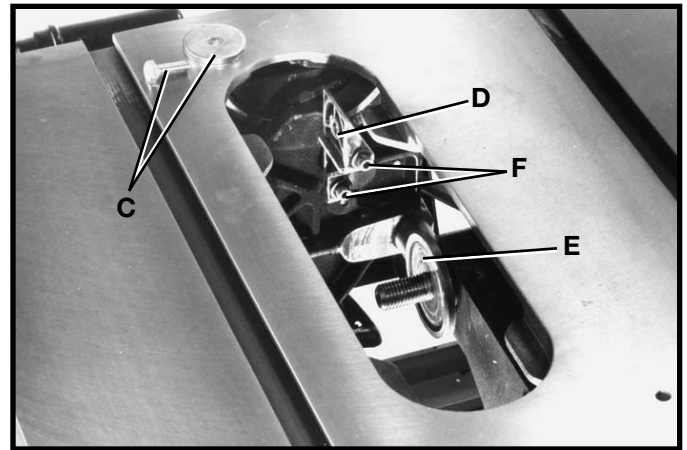

Fig. 31
5. If an alignment is necessary, loosen the two screws (F) Fig. 31, align bracket (D) with the arbor flange (E), and tighten screws (F).
6. Loosely assemble large washer and screw (C) Fig. 31, to the inside splitter bracket. This screw and washer was removed in **STEP 3**.